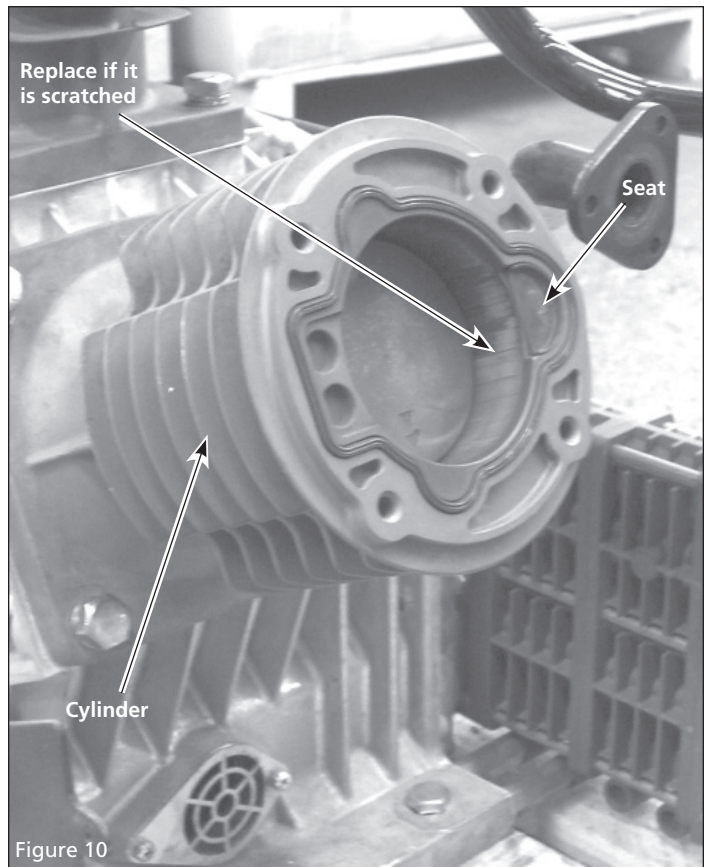

Figure 10
7. Be sure to replace plastic seat in cylinder (See Figure 10).
3. Inspect cylinder surface. If treated area is worn and metal is exposed, replace. If there are several vertical scratches at a narrow distance, replace (see Figure 10).